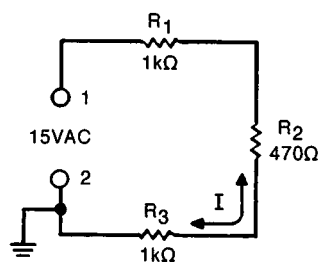
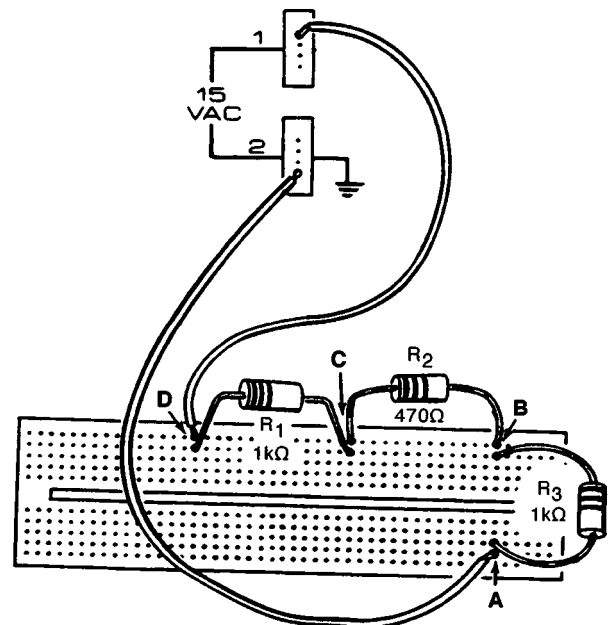

Figure 2-31
Figure 2-32
2. Construct the circuit shown in Figure 2-31. To do this, follow the wiring diagram shown in Figure 2-32. This circuit contains a 1000 ohm resistor designated as R_1 , a 470 ohm resistor, R_2 , and a 1000 ohm resistor, R_3 . These three resistors are connected in series. The AC voltage applied to these resistors has an effective value of approximately 15 volts.
6. Now, observe polarity and measure the voltage across resistor R_3 . To do this, connect the negative lead (usually the black probe or a ground clip) to the grounded side of resistor R_3 at point A in Figure 2-32, and the positive meter lead (usually the red probe) to the other side of R_3 at point B. Record the voltage in the blank provided below.
8. Now measure the voltage drop across the entire circuit. To do this, leave the ground lead in place while you connect the other lead to point D in Figure 2-32. Write the value of this voltage in the space provided below.